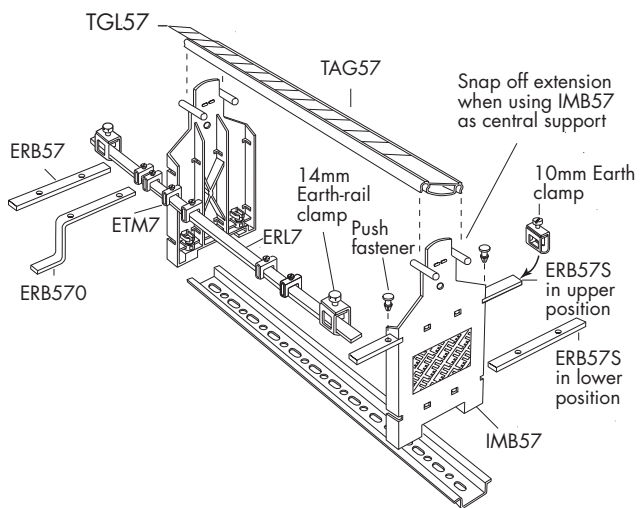

Figure 3.4: Assembly drawing showing part numbers
IMB57 Insulating mounting block (Figures 3.4, 3.5 & 3.6)
*Where the earth rail is required to be positioned at a lower height and to allow access to the IMB57 mounting screws, the straight earth-rail bracket ERB57S can be inserted in the lower slot, but only **after** insulating mounting blocks IMB57 are clamped to the DIN rail. This may not be possible if, for example, trunking is fitted. In this case, fit offset earth-rail bracket ERB570 (see figure 3.4 & 3.10) in the upper slot: the mounting blocks can then be fitted in a restricted space with this bracket already fitted.*
Note: For lengths of earth-rail greater than 500mm, provide additional support by installing a third IMB57 mounting block and earth-rail bracket, mid-way between the end mounting blocks. Snap out the perforated extension between the lugs on this mounting block if a continuous tagging strip is to be fitted (see figure 3.4).